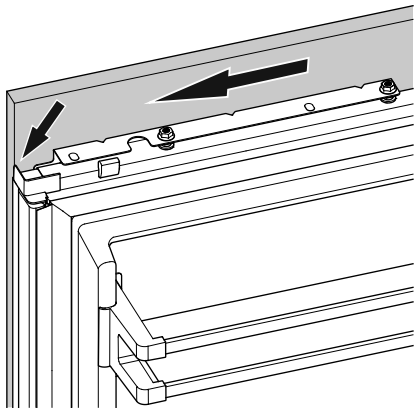

Figure 30
10. Move the panel to the left until it makes contact with the center rail (**Figure 30**).